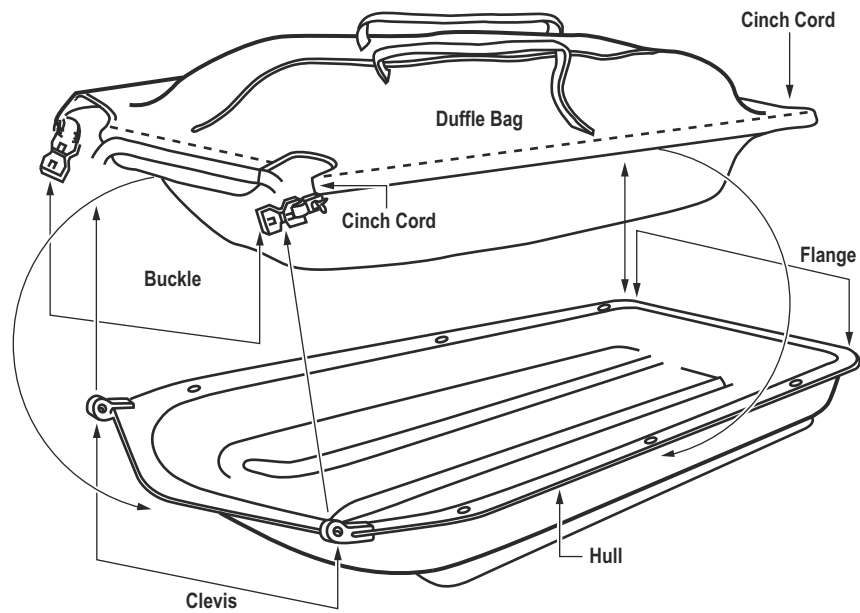

Figure 14-2. Assembling the Fire Team Sled.
- Place the transport bag into the sled hull with zipper and handles up and buckles toward the bow of the sled hull, as shown in figure 14-2 on page 14-12. Position the cinch cord under the flange located around the top edge of the sled hull. Stretch flap with the female buckle end over the front of sled. Couple each set of buckles under their adjacent clevis.